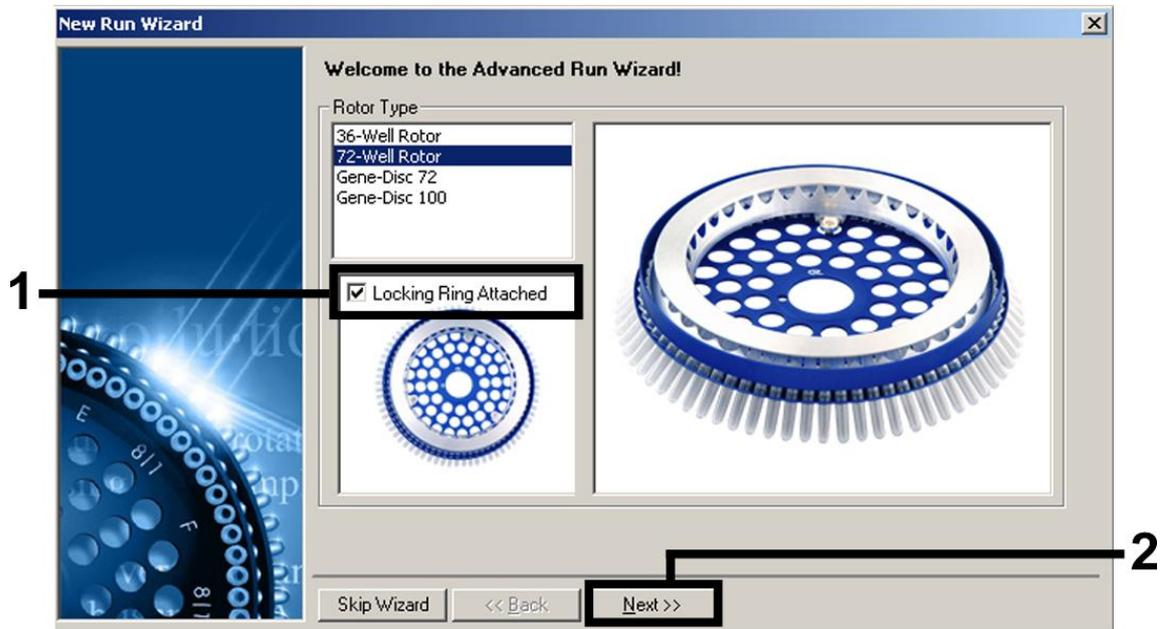

Figure 3. The "New Run Wizard" dialog box.
Setting the general assay parameters	Figures 3, 4, 5
6. First, open the "New Run Wizard" dialog box with the "Advanced" version (Figure 3). Check the "Locking Ring Attached" box and click "Next".